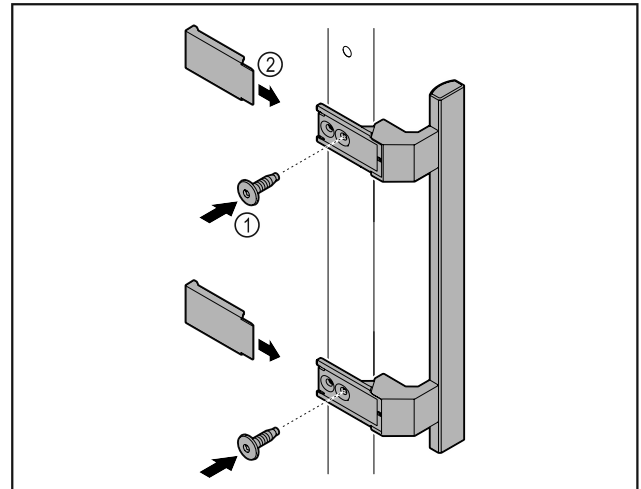

Fig. 46
- ▶ Attach handle from accessory kit to the door using supplied screws Fig. 46 (1).
- ▶ Put on cover Fig. 46 (2).